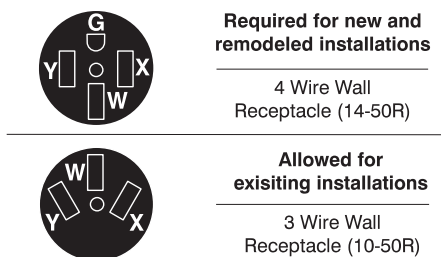

Fig. 8
This appliance may be connected by means of a power supply cord. Only a power supply cord kit rated at 125/250 volts minimum, and marked for use with ranges shall be used. See Fig. 10 for cord kit ampere rating information. Cord must have either three (3) or four (4) conductors (See Fig. 8). Terminals on end of wires must be either closed loop or open-end spade lugs with upturned ends. Cord must have strain relief properly installed. See Steps 4a. for 4-Wire or 4b. for 3-Wire connections.